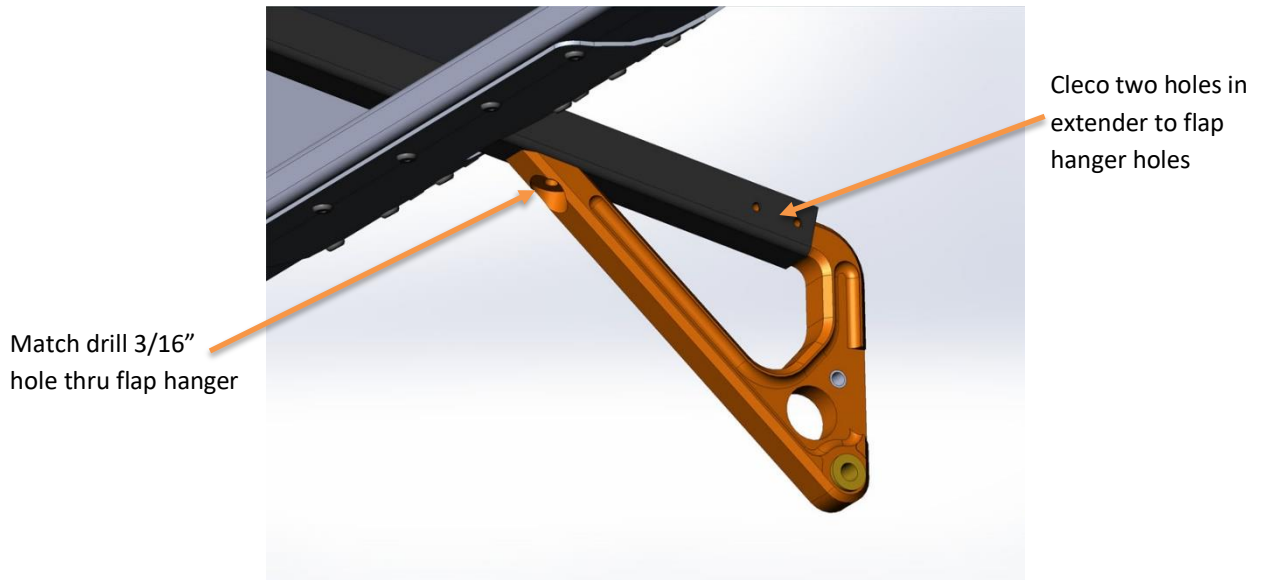

Figure 10: Install flap hanger extender and cleco both aft holes
13. Place the flap hanger extenders (PSTOL-0029) into the existing flap hanger channels. The flap hanger extenders have two #30 holes located near the end that is inserted into the flap hanger. Place the flap hanger extender into the flap hanger so that the two holes are as concentric as possible to the two existing holes in the end of the original flap hanger – see Figure 10. Using two #30 copper clecos, secure the flap hanger extender (PSTOL-0029) to each existing flap hanger. The clecos must be inserted from opposite sides, because the holes are too close for both to be on one side.
14. Using a 3/16" diameter (or #12) drill bit, match drill the hole on the bottom of the aluminum flap hanger extender (PSTOL-0029) up through the existing steel flap hanger – see Figure 10. Caution: Ensure that the aluminum flap extender is centered and that hole is drilled perpendicular to the steel flap hanger.